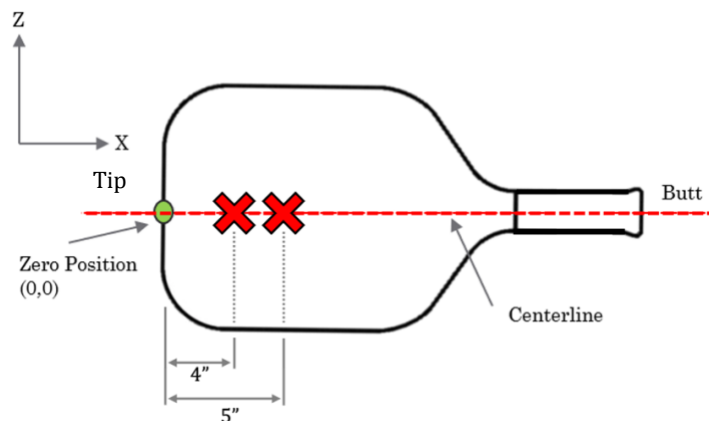

Figure 3 – Paddle alignment and testing locations
1. Align the paddle in the X and Z direction so that the zero position is at the tip end of the paddle on the centerline (see Figure 3)